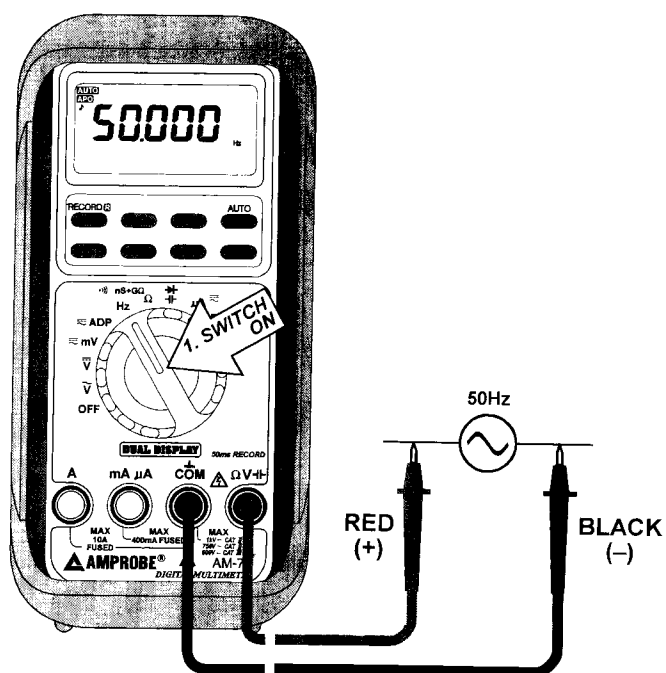

FIG 7. Hz FUNCTIONS
- 3) Connect test leads to signal source and observe the digital display, see **FIG 7**